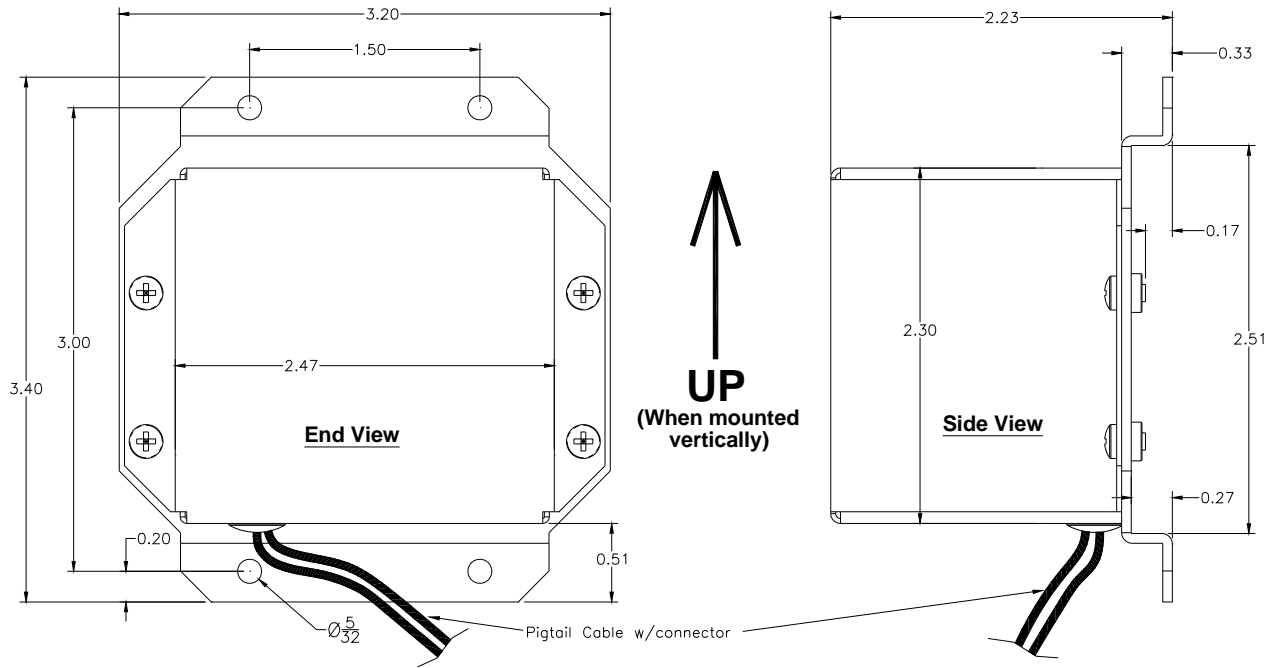

Figure 2.4
- 3. Mount the standby battery in a protected location inside the aircraft using 9015671 kit, oriented at any angle from horizontal to vertical. If mounted vertically, cable side must be down as shown in Fig. 2.4.